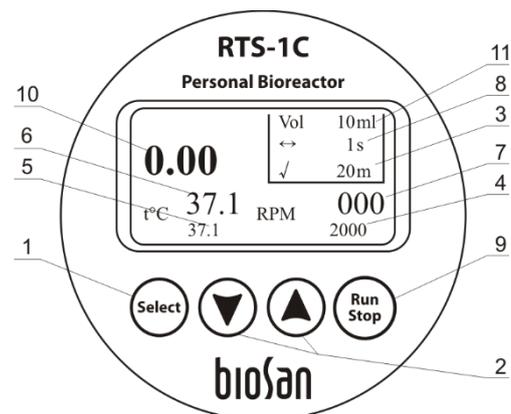
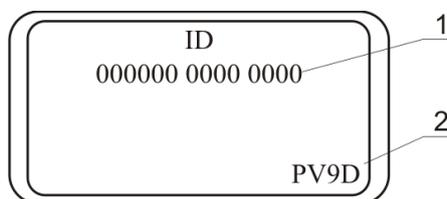

Figure 2. Control panel
Figure 3. ID and hardware version
- 5.1. **Checking hardware version.** To check the hardware version, press ▲ and ▼ keys (fig. 2/2) simultaneously. Display will show a new screen with a unique fourteen-digit unit ID (fig. 3/1) and the hardware version (fig. 3/2). Please refer to the number in the version for further calibration. Display will change back to the previous screen after 4 seconds.
- Set the volume parameter of the distilled water on the display (fig. 2/11);
- Press **Run Stop** key (fig. 2/9) (the device will start the OD measurement cycle by accelerating to 2000 rpm);
6.5.1. Press the **Select** key (fig. 2/1) to choose a parameter that you want to change (the active parameter is blinking).
6.5.2. Use **▲** and **▼** keys (fig. 2/2) to set the necessary value (if the key is pressed for more than 2 seconds the parameter should change quicker).
6.5.3. It is possible to set time between optical density measurements (fig. 2/3), spinning speed (fig. 2/4), temperature (fig. 2/5), time between Reverse Spins (fig. 2/8), operating volume (fig. 2/11). Actual values of the temperature and speed are displayed on the display (fig. 2/6 and fig. 2/7).
6.5.4. Press the **Run Stop** key (fig. 2/9) to start and stop operation.
6.5.5. Press the **Run Stop** key (fig. 2/9) to stop the operation.
**Caution!** Operation stop will not stop the heating process. To stop heating process set temperature has to be decreased manually until "off" indication appears (fig. 2/5).